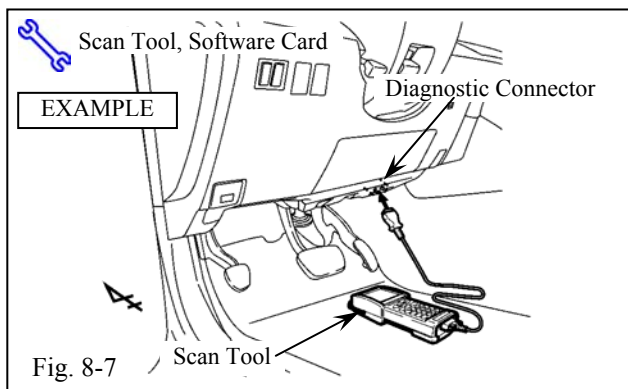

Fig. 8-7
- (n) Connect the Scan Tool Connector to the Vehicle's Diagnostic Connector in the right side of the Lower Dash Area. (Fig. 8-7)